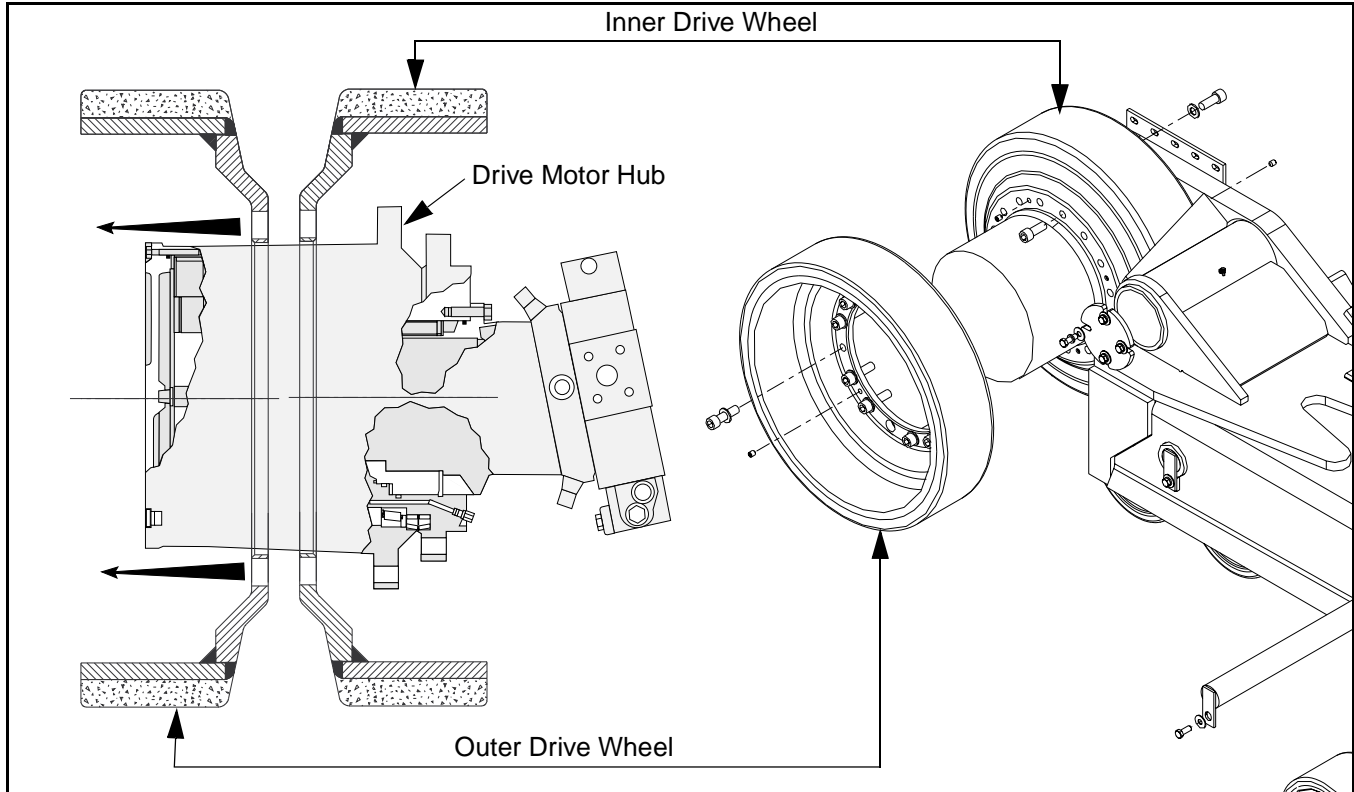

Figure 6 - 55 Drive Wheel Replacement
- 3) To replace liners, remove bolts retaining liner panels and slide liners out the back of the paver. New liners can be installed in reverse order. (Figure 6 - 56)